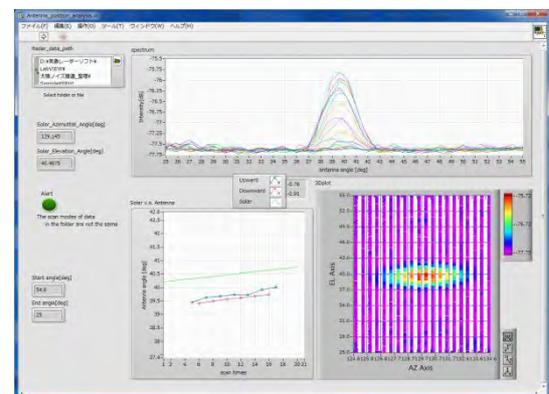

Figure 7.5
8. Figure 7.5 shows two or more observed measured solar data points (All data must be acquired using same scan mode).